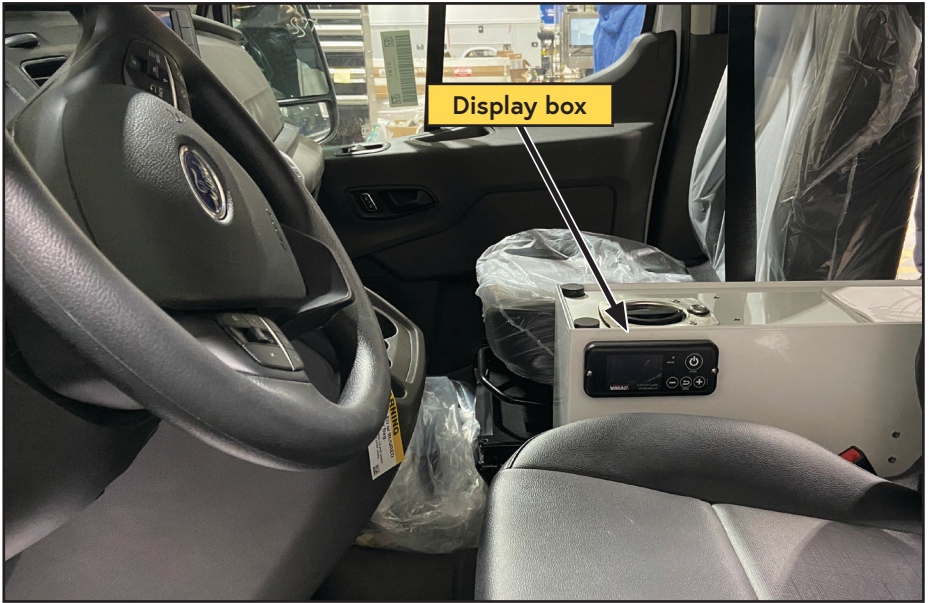

Figure 46 — Install display box
- Mount the display box in a convenient location (such as the center console or bulkhead) (Figure 46).